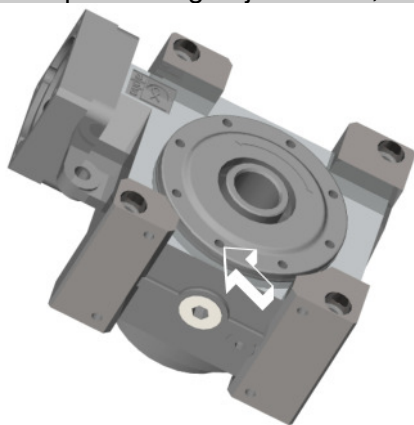

Fig. 11.1
- ➔ Remove the inner hexagonal bolts on both side covers (see fig. 11.1). On the covers are markings pointing to the numbers on the housing.